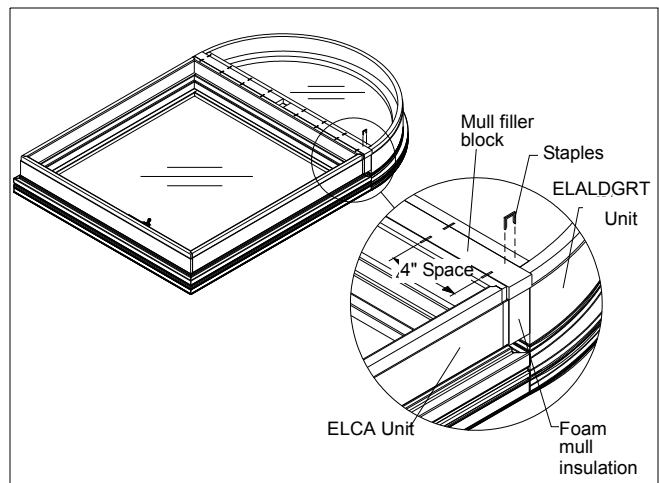

Figure 32
5. Insert mullion insulation between mullions. Insert mullion filler blocks (W6172) at each end and if necessary, center of mull cavity. Clamp the units together and attach blocks using 1/2" x 1/2" 16 gauge staples spaced every 4". See figure 32.